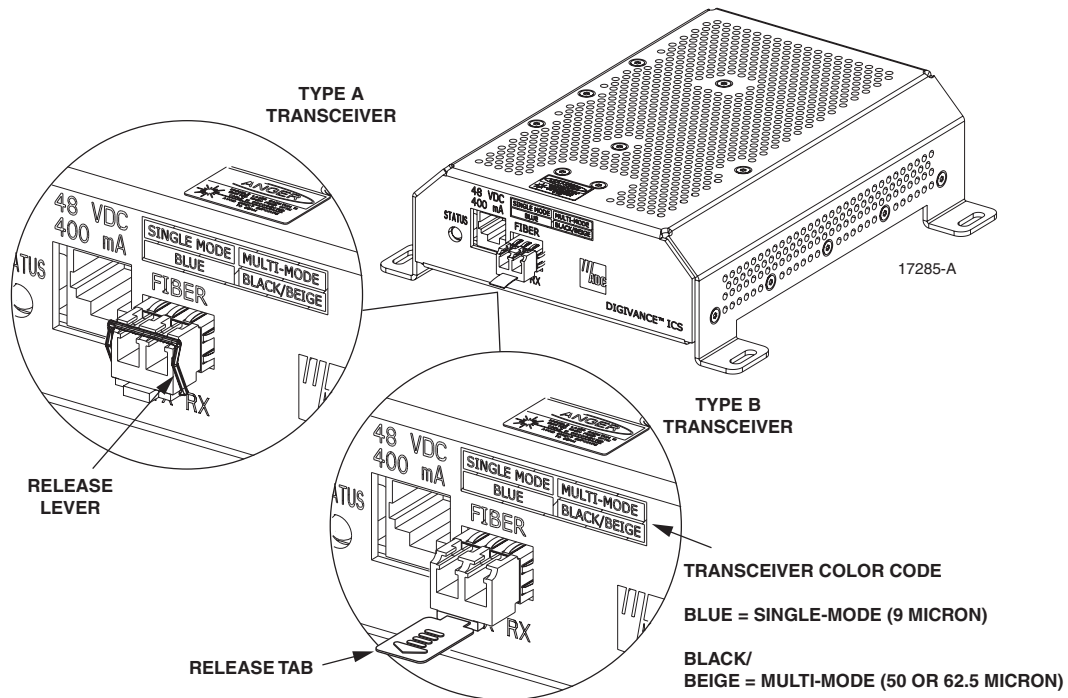

Figure 34. DRU Optical Transceiver Removal
5. Release the optical transceiver from the transceiver socket by pulling outward on the release lever (if type A) or release tab (if type B) as shown in Figure 34.
7. For replacement, select an optical transceiver that corresponds to the type of fiber (single- or multi-mode) used in the installation. The color of the transceiver corresponds to the fiber type (see Figure 34).
- **Note:** Two types of optical transceivers, type A and type B, are available. Both types provide the same functionality. On the type A optical transceiver, the release lever (see Figure 34) must be closed for installation.